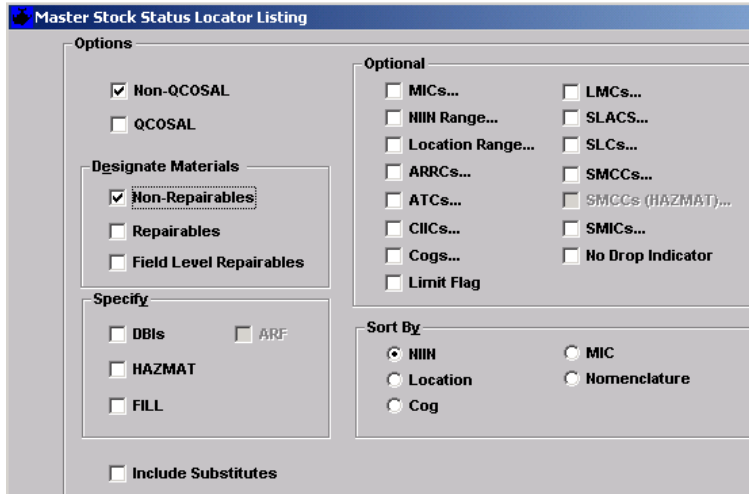

Figure 5.25
- 5.7.1 The *Master Stock Status Locator Listing (MSSLL)* window (Figure 5.25) is a batch parameter entry window. This window allows you to generate a MSSLL for Non-QCOSAL and/or QCOSAL material onboard, in NIIN, Location, Cog, MIC, or Nomenclature order.